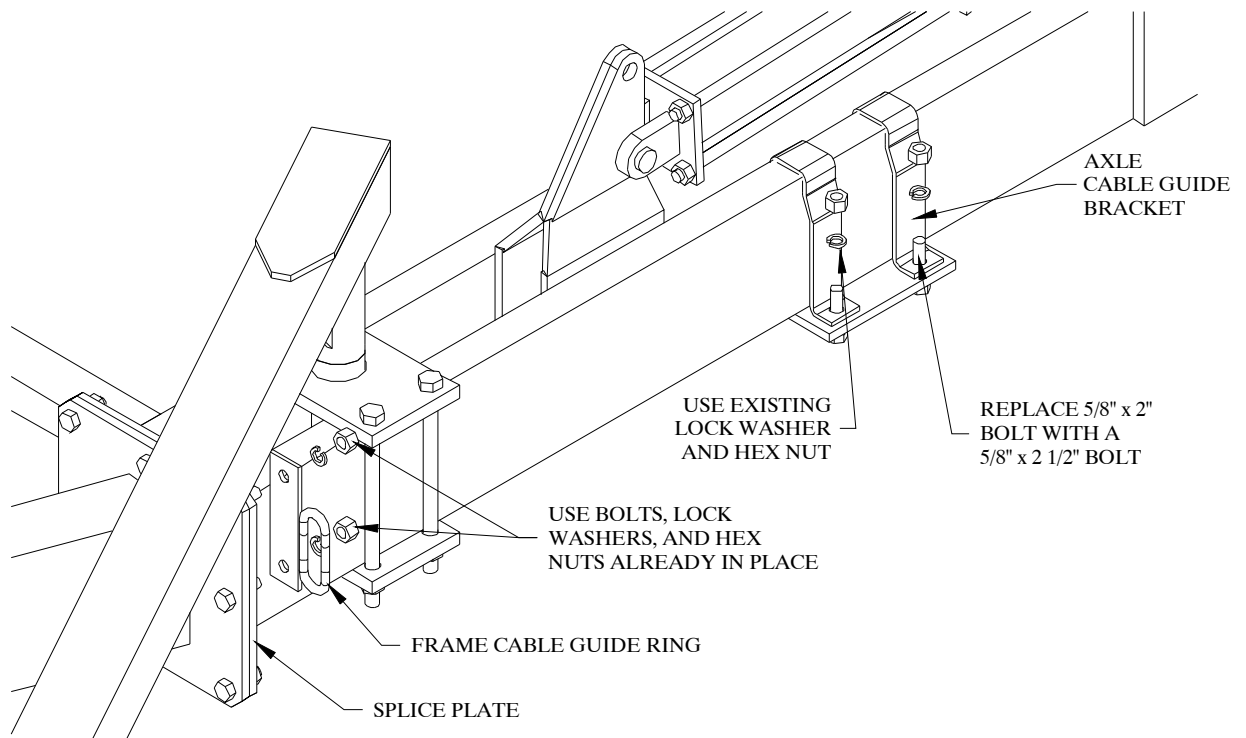

Figure 30
2. Attach the frame cable guide ring to the rear side of the frame splice plate as shown in Figure 30. Use the existing top two bolts, lock washers and hex nuts.
3. Attach the axle cable guide brackets to the axle plate as shown in Figure 30. Replace the $\frac{5}{8}$ " x 2" bolts with $\frac{5}{8}$ " x 2 $\frac{1}{2}$ " bolts.